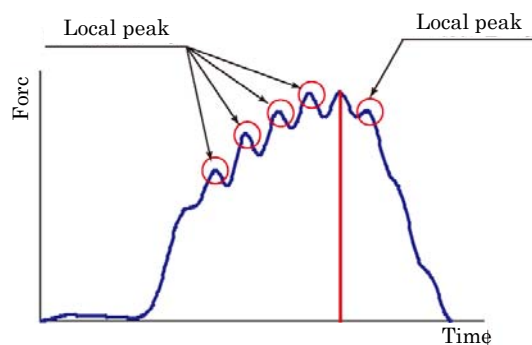

Fig. 3.4-1 Occurrences of Local
- The value shows the number of local peaks in the first and second halves of the waveform measured (See Figure 3.4-1).